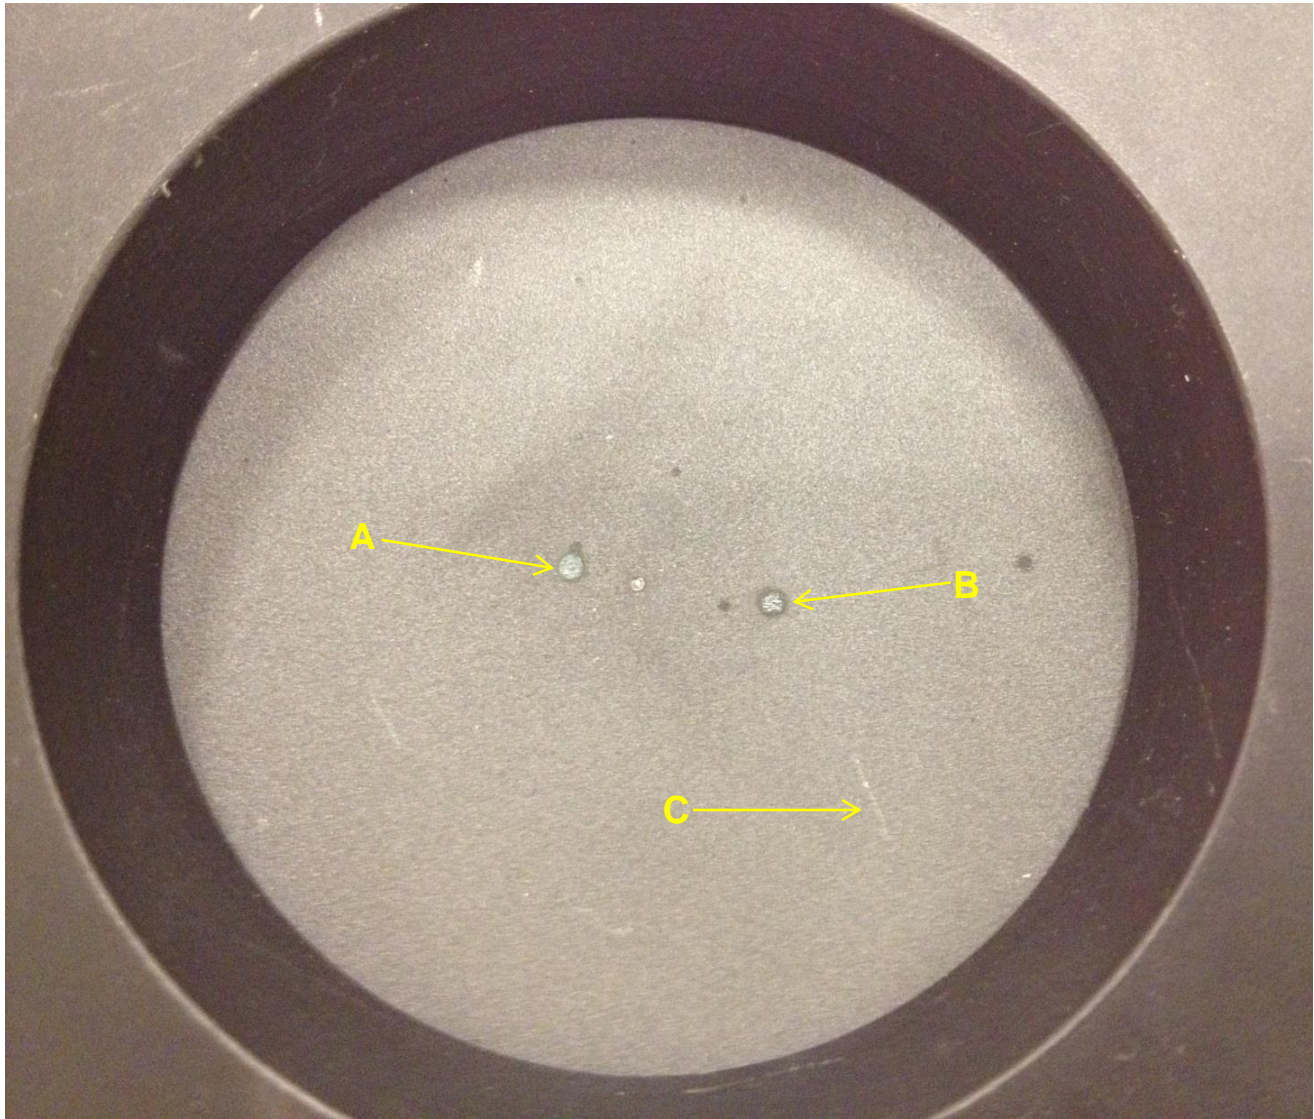

Figure 4: Thermopile Damage as the Result of Too High of a Power Density
- d. Figure 4: Thermopile Damage as the Result of Too Low of a Power Density